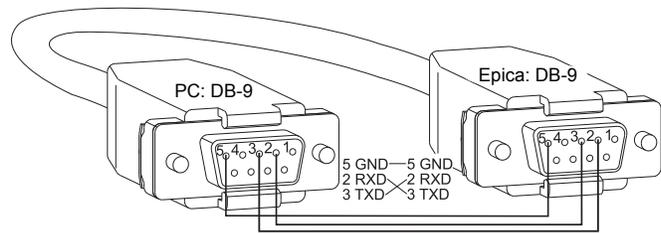
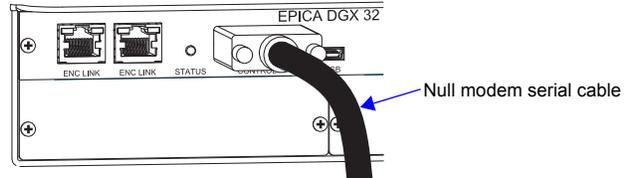

FIG. 5 RS-232 null modem cable pin diagram
FIG. 6 Null modem serial cable connected to Control (DB-9) serial port
Link using the Enc Link (RJ-45) ports (FIG. 6) according to the "Matrix Switchers – Linking Enclosures QSG." Do not use port labeled "TCP/IP" for linking enclosures.
An Epica DGX 16 or 32 can be controlled by attaching an external control device/system to the serial port (DB-9 connector pinout in FIG. 5; attaching null modem serial cable in FIG. 6). External serial control options are listed below. The USB port can also be used, but requires creation of a virtual COM port (see *Instruction Manual*).
2. Plug the null modem serial cable into the serial port on the enclosure (FIG. 6).
3. Plug the other cable end into the serial port on the serial controller/device (PC).